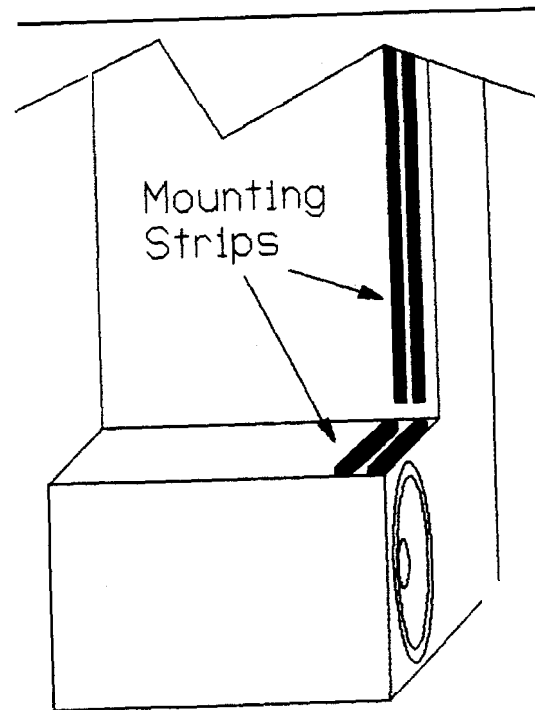

FIGURE 12-22: Use strips of wood to form slot.
**MOUNTING ESLs.** Glue wood strips along the TL to form a slot to accept the ESLs (Fig. 12-22). Brace the opposite edge and unsupported top edge with aluminum strips similar